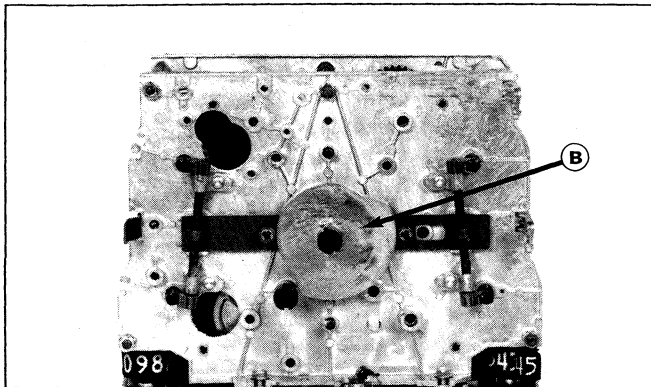

Figure 41.
1. Erratic Operation of Wheels (Figure 41).